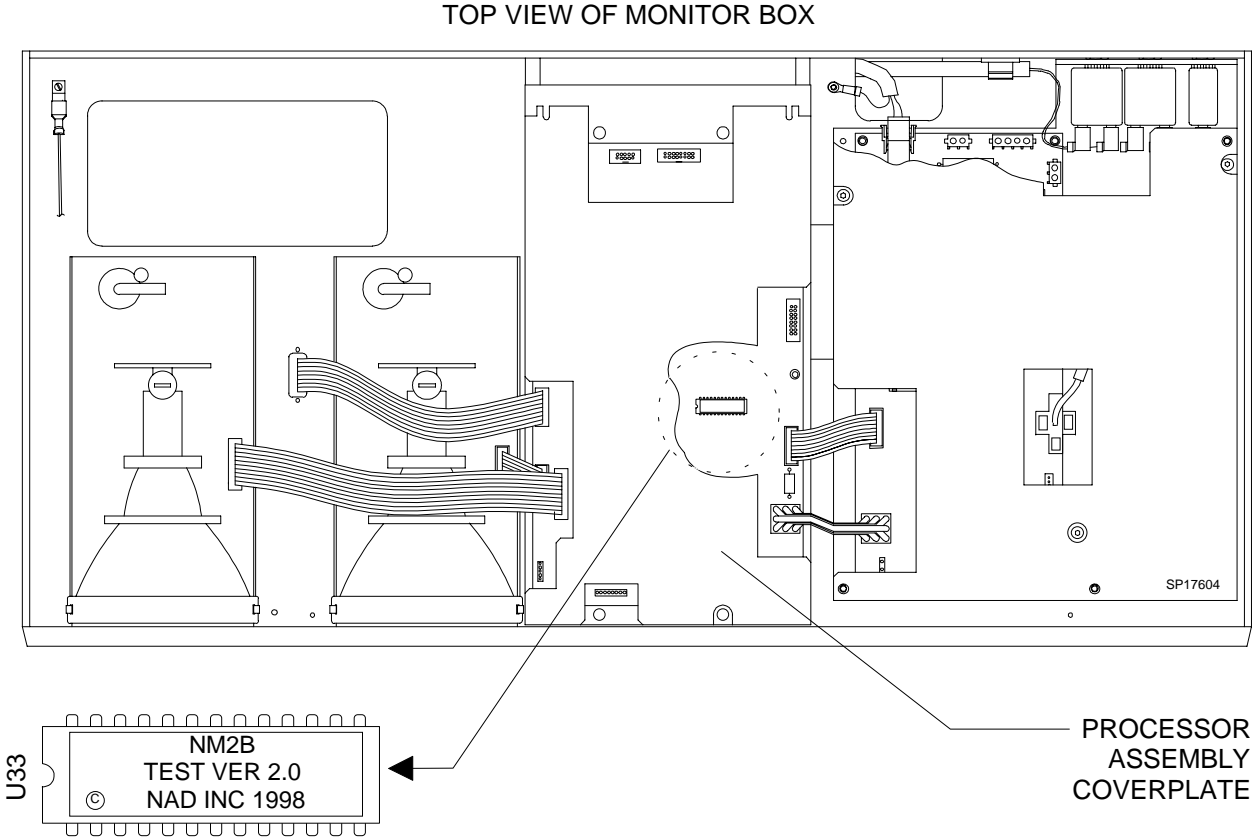

Figure 4. Firmware Chip Location
2. Carefully remove the firmware chip, U33, from the processor board. See Figure 4.